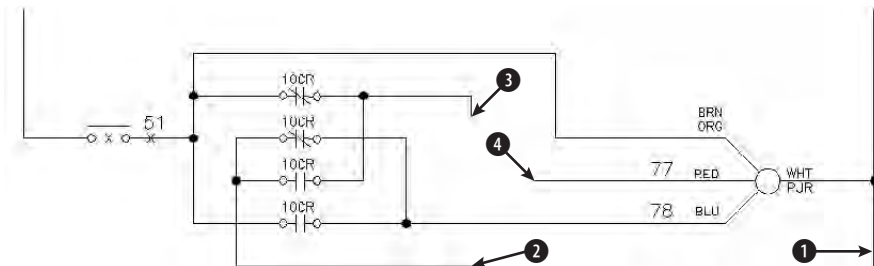

Figure 10-20: An electrical schematic
2. Save the file as `ab10-06.dwg` in your AutoCAD Bible folder. It looks like Figure 10-20.
3.  Choose **Extend** on the Modify toolbar. At the **Select objects:** prompt, pick the line at ❶ in Figure 10-20 and then press Enter.
4. At the **Select object to extend or shift-select to trim or [Project/Edge/Undo]:** prompt, pick the line at ❷ in Figure 10-20. Press Enter to finish selecting objects. AutoCAD extends the line.
5. Repeat the **EXTEND** command. At the **Select objects:** prompt, pick the lines at ❸ and ❹ in Figure 10-20 and then press Enter.
7. Pick lines ❸ and ❹ in Figure 10-20 again at the points shown. AutoCAD extends the lines to meet. Press Enter to end the command.